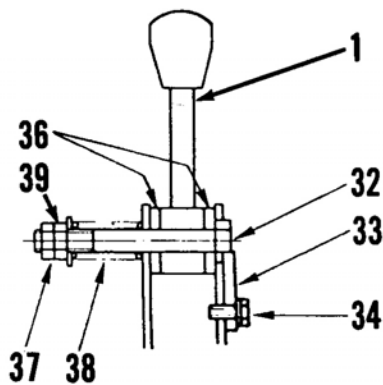

Fig. 51—Rear view of forward speed control components. Refer to text.
To adjust forward speed control components - proceed as follows: Loosen locknut (12—Fig. 50) and turn turnbuckle (13) until dimension (D) is 6-8 mm (15/64-5/16 inch), then retighten locknut (12). Loosen locknut (37—Fig. 51) and turn adjuster nut (39) to adjust tension on spring (38) until force required to operate lever (1—Fig. 50) in “R” direction is 25-30 N (5.5-6.6 lbs.), then retighten locknut (37—Fig. 51).